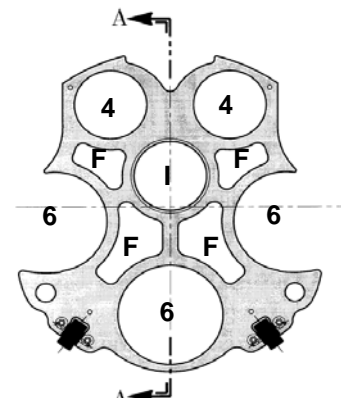

Figure 3. 3-6" & 2-4" Conduits
- C. Figure 3 Bore Spacer, **1.106"** maximum float.